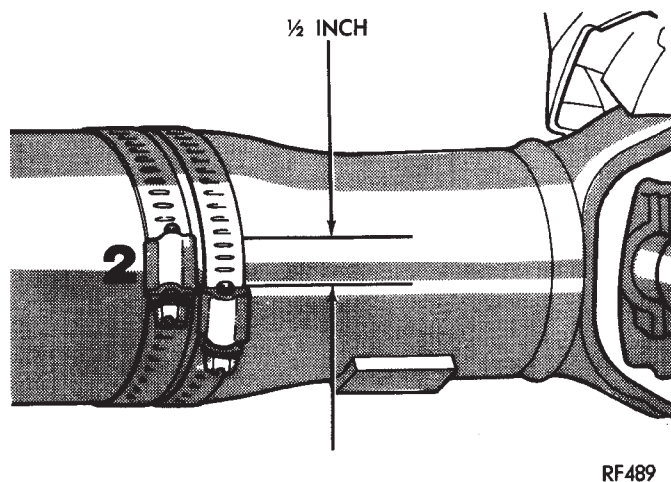

Fig. 8 Clamp Screws Separated
(13) If the additional clamp causes an additional vibration, separate the clamps (1/4 inch above and below the mark). Repeat the vibration test (Fig. 8).
(14) Increase distance between the clamp screws and repeat the test until the amount of vibration is at the lowest level. Bend the slack end of the clamps so the screws will not loosen.
(15) If the vibration remains unacceptable, apply the same steps to the front end of the propeller shaft.
(16) Install the wheel and tires. Lower the vehicle.